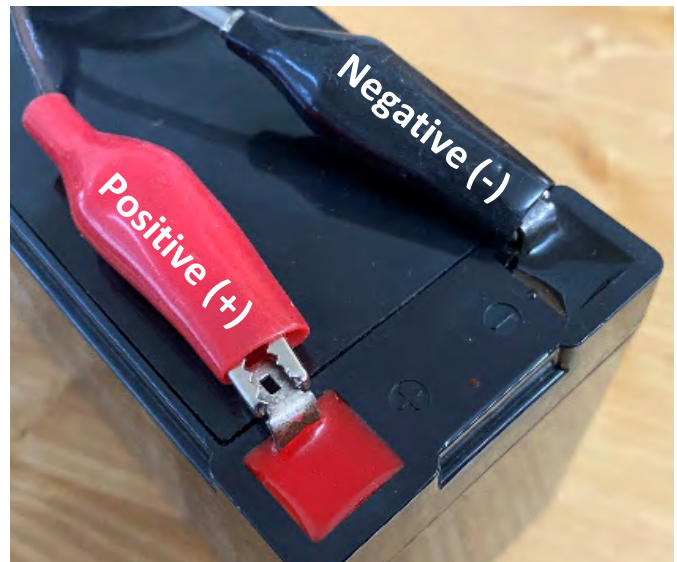

Figure 15
- Connect the controller’s power cord to the battery. Connect the alligator clip with the red insulator to the positive battery terminal (red marking and + symbol) and the alligator clip with the black insulator to the negative battery terminal (black marking and - symbol). (Figure 15)